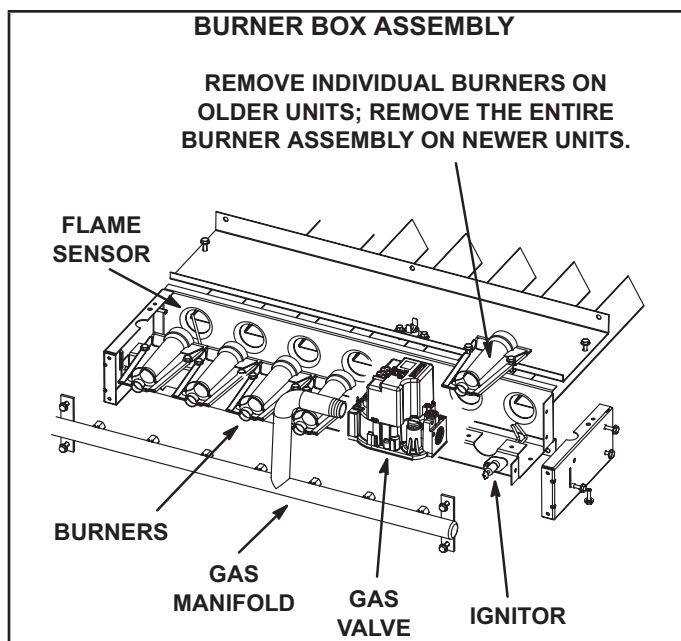

FIGURE 26
- 4 - Remove screws securing burners to burner support and lift the individual burners or the entire burner assembly from the orifices. See FIGURE 26. Clean as necessary.